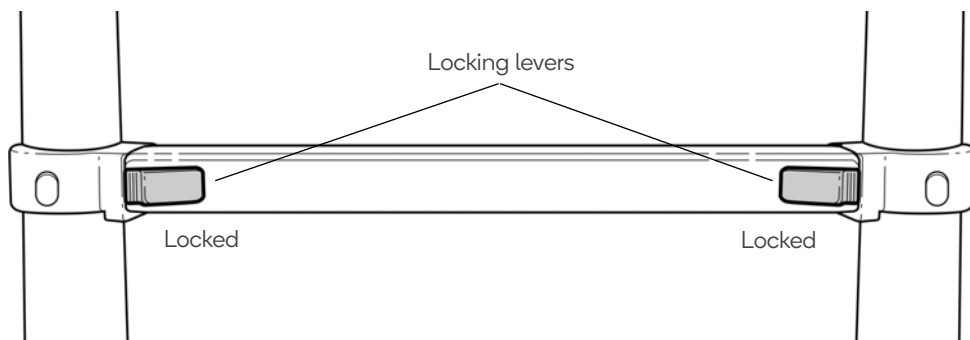

Fig.1
- Each mechanism is connected to a locking lever visible on the outside (see Fig.1).